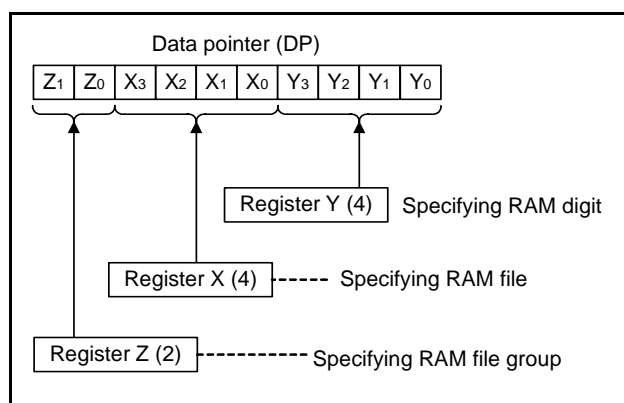

Fig 19. Data pointer (DP) structure
Data pointer (DP) is used to specify a RAM address and consists of registers Z, X, and Y. Register Z specifies a RAM file group, register X specifies a file, and register Y specifies a RAM digit (Figure 19).